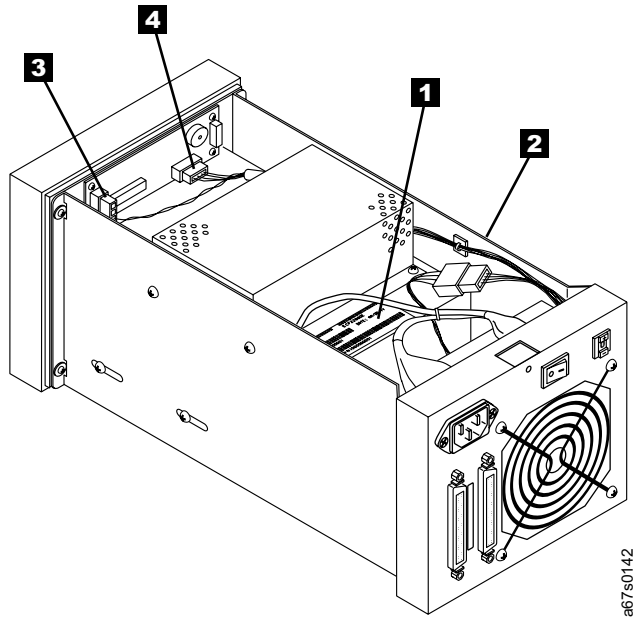

Figure 28. Removing the internal drive from the 3580 Ultrium 2 Tape Drive
2. Remove the internal drive (see **1** in Figure 28) from the chassis **2** by performing the following steps: